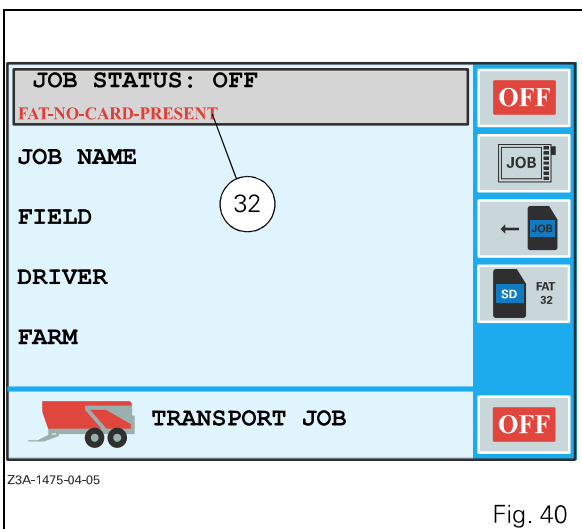

Fig. 40
NOTE: If there is no card in the Datatronic 3 reader, a message is displayed on the screen (ref. 32 Fig. 40).